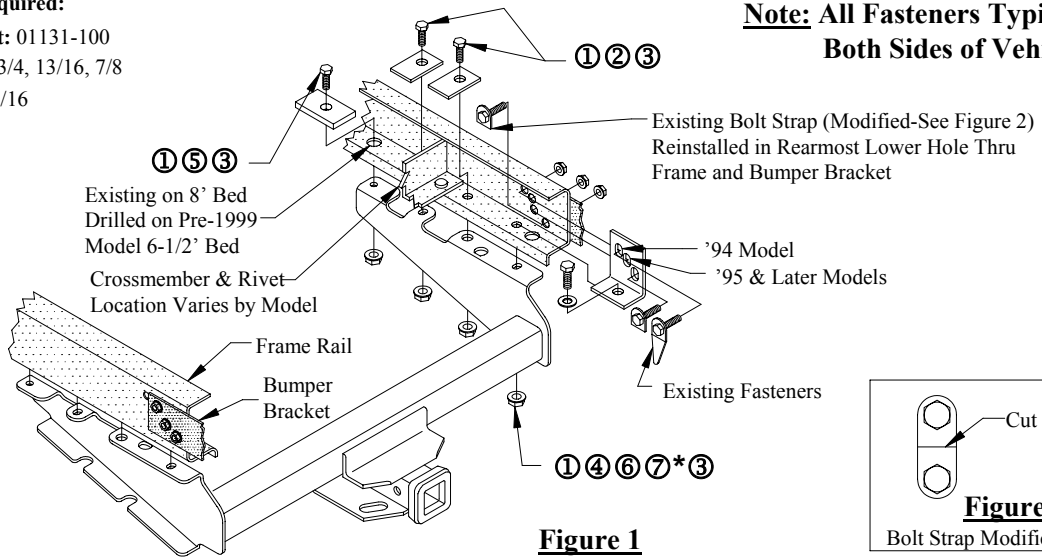

Figure 1
5. Insert hex bolt (Item 1) and hardened flat washer (Item 4) in first attachment holes in each frame rail as shown in Figure 1.
6. Insert hex bolt (Item 1) and spacer (Item 5) in forward attachment holes in each frame rail as shown in Figure 1.
7. Raise hitch into position and loosely attach fasteners to bolts as shown in Figure 1.
8. Center hitch and install remaining fasteners as shown in Figure 1.